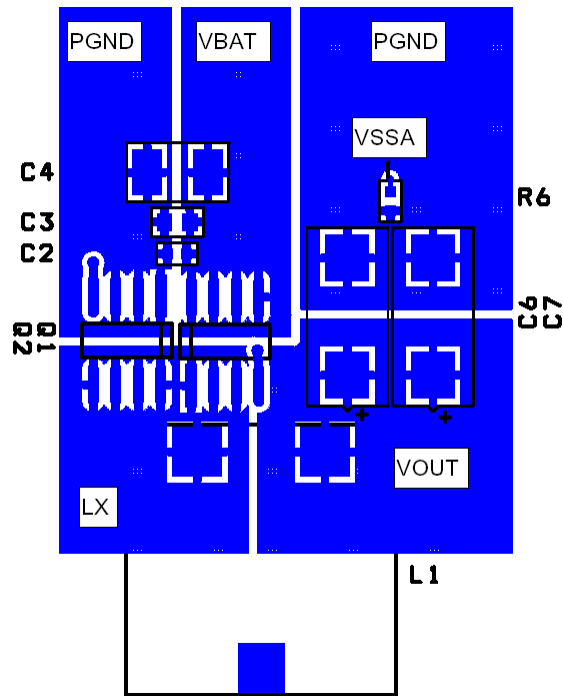

Figure 9: Power Component Placement and Copper Pours
The input capacitors should be placed with the highest frequency capacitors closest to the loop to reduce EMI. Use large copper pours to minimize losses and parasitics. See Figure 9 for an example.
- 4) Notice in Figure 9 above placement of the 0Ω resistor at the bottom of the output capacitor to connect to VSSA.